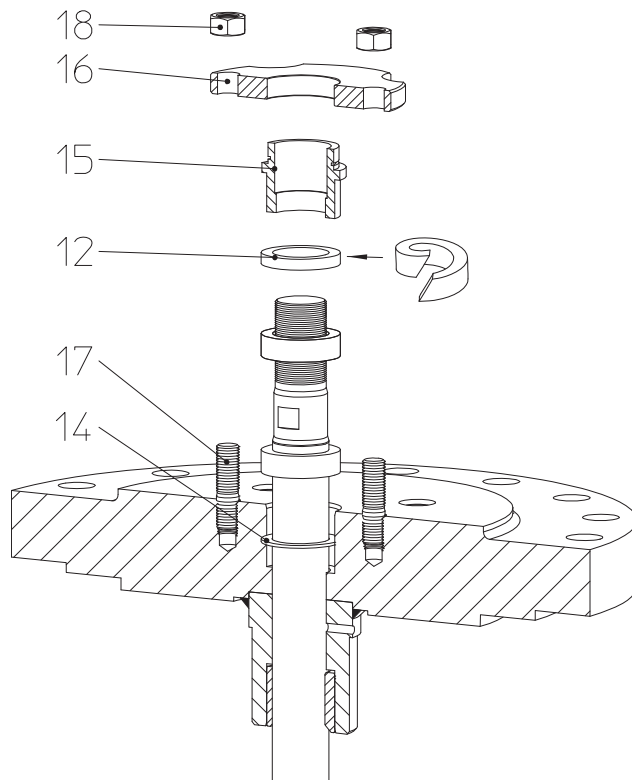
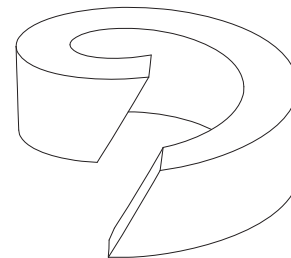

Fig. 7
Fig. 8: split packing ring
**Refer to item 10.0 and 11.0 before dismantling the valve.**
- Insert the new packing ring as shown in Fig. 7 - Fig. 8
If a split packing ring is used, cut with a chamfer as shown in Fig. 8.